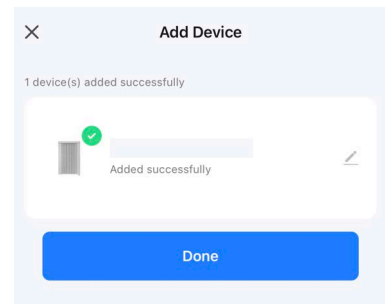

Figure 13 | Finishing connection process
- The radiator will begin connecting. When it is successfully added, it will appear on the app as in **Figure 13**. Press  to change the name of the radiator or “Done” to return to the home screen.